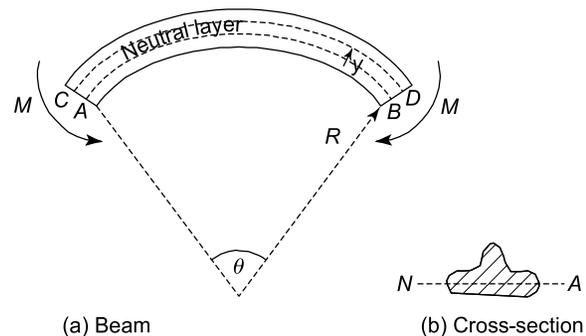

Figure 9.2
In pure or simple bending, the beam will bend into an arc of a circle as shown in Figure 9.2.
Now in Figure 9.2, it can be seen that due to these couples M , the upper layers of the beam will be in tension, because their lengths have been increased, and the lower layers of the beam will be in compression, because their lengths have been decreased. Somewhere in between these two layers lies a layer whose length has not changed, so that its stress due to bending is zero. This layer is called the **neutral layer** and its intersection with the beam's cross-section is called the **neutral axis (NA)**. Later on in this chapter it will